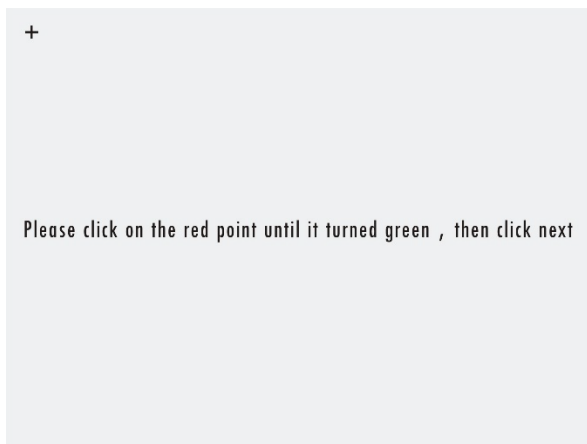

Fig 5-8 Screen Calibration
- **Screen Calibration:** Calibrate screen according to display, Enter calibration screen and click the small black crosses one by one. (Fig 5-8).